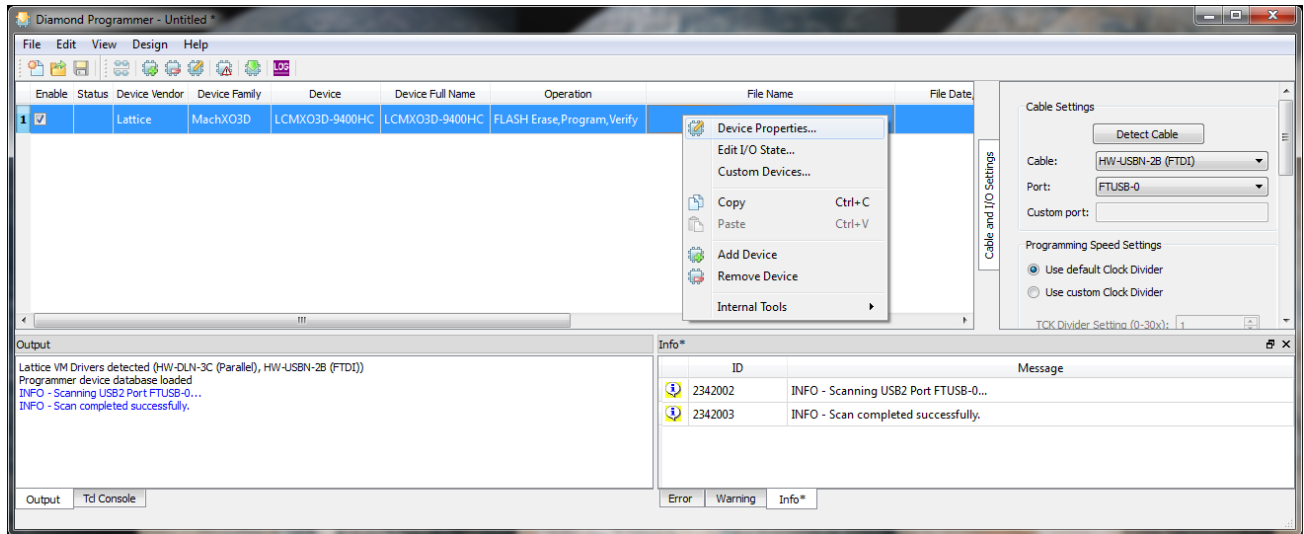

Figure 6.7. Select the Device
3. The LCMXO3D device is detected and displayed. Right-click on the device and select **Device Properties...** from the right-click menu (Figure 6.7).